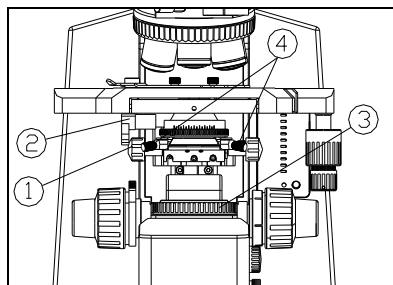

Fig.21
(1) Rotate the condenser up-down knob ① to raise it to the highest position. (See Fig. 21)
(2) Rotate the spanner ② to move the front lens into light path.
Rotate the field diaphragm adjustment ring ③ in clockwise, to enlarge the field diaphragm; otherwise, to decrease it in counterclockwise. (See Fig. 21)